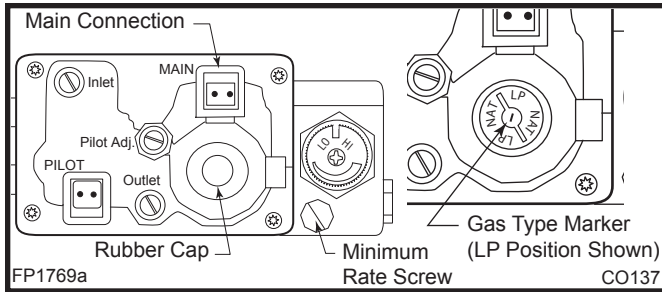

Fig. 51 Remove rubber cap and adjust gas type marker.
1. Remove the black cap by pulling the cap straight off. Note the position of the marker on the top of the rotary knob. This marker will point to NAT or LP. (Fig. 51)
3. Remove the minimum rate screw, using a small screwdriver, located in the valve next to the motor drive. (Fig. 51)